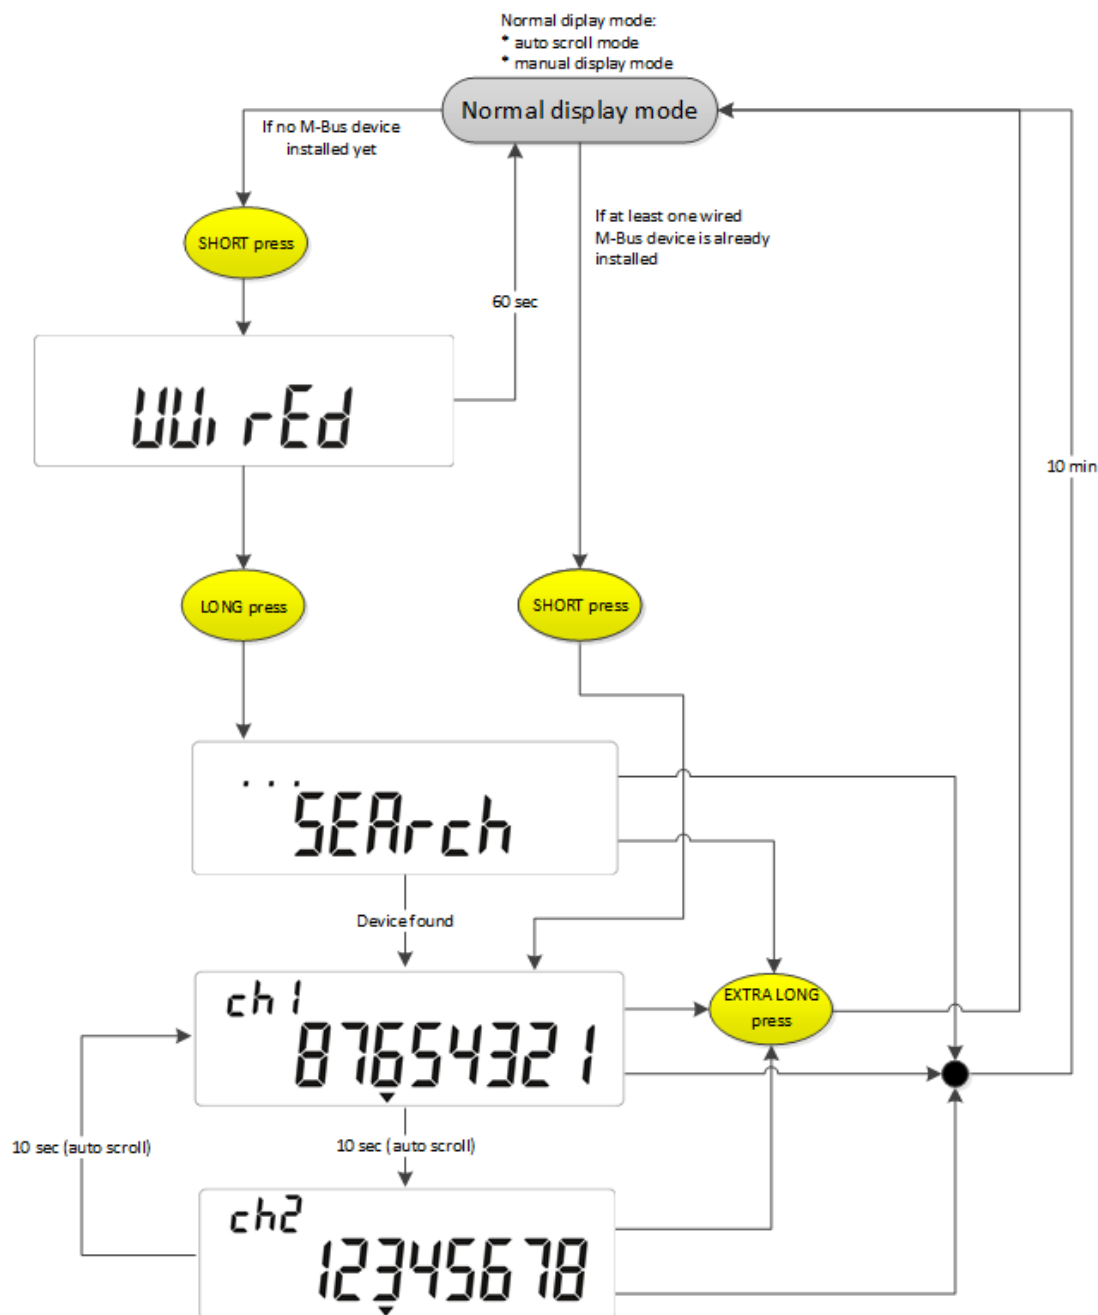

Figure 139: Wired M-Bus binding procedure
E-meter starts to search for connected devices. During polling for the devices, a "SEArch" message with progress indication is displayed until the first M-Bus device is detected. After that, identification number of the installed device is displayed with corresponding channel information. If more M-Bus devices are discovered during installation procedure, all identification numbers of those devices with corresponding channel number will be automatically scrolled on the display with period of 10 seconds. After an interval of 10 minutes the pop-up list will disappear, and display mode will be changed to auto scroll mode. Auto scroll mode can be entered with EXTRA LONG button press also. The searching progress is presented with sequential increase of upper dots on the display. The Figure 139 presents whole manual binding procedure.
- After manually enter search mode for wired M-Bus devices (Figure 139).